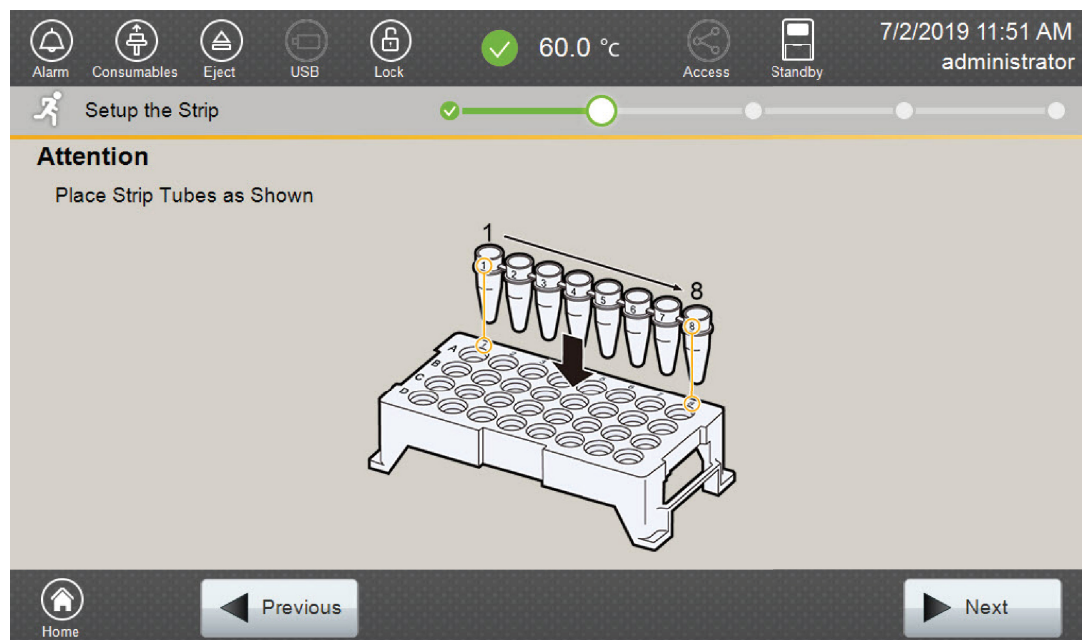
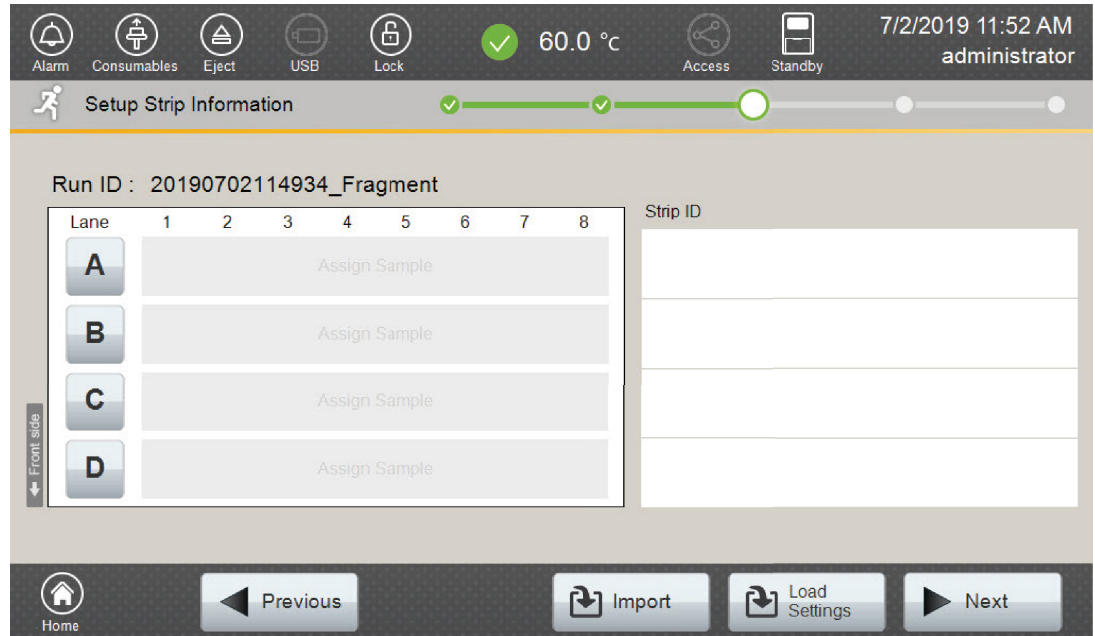

Figure 14. 'Setup the Strip' screen.
Figure 15. 'Setup Strip Information' screen.
6. Follow the message screen for placement of strips into the sample cartridge (Figure 14).
1. Select **Next** on the 'Setup the Strip' screen shown in Figure 14. This will take you to the 'Setup Strip Information' screen shown in Figure 15.